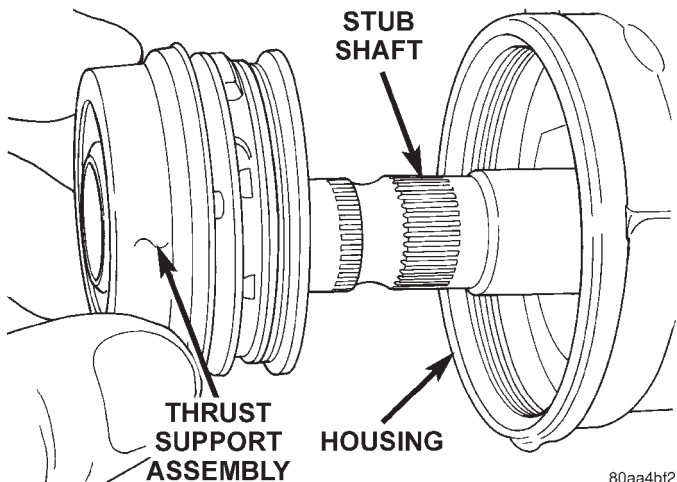

Fig. 12 Thrust Support Assembly
(2) Remove adjuster nut with Spanner Wrench C-4381.
(3) Remove thrust support assembly out of the housing (Fig. 12).